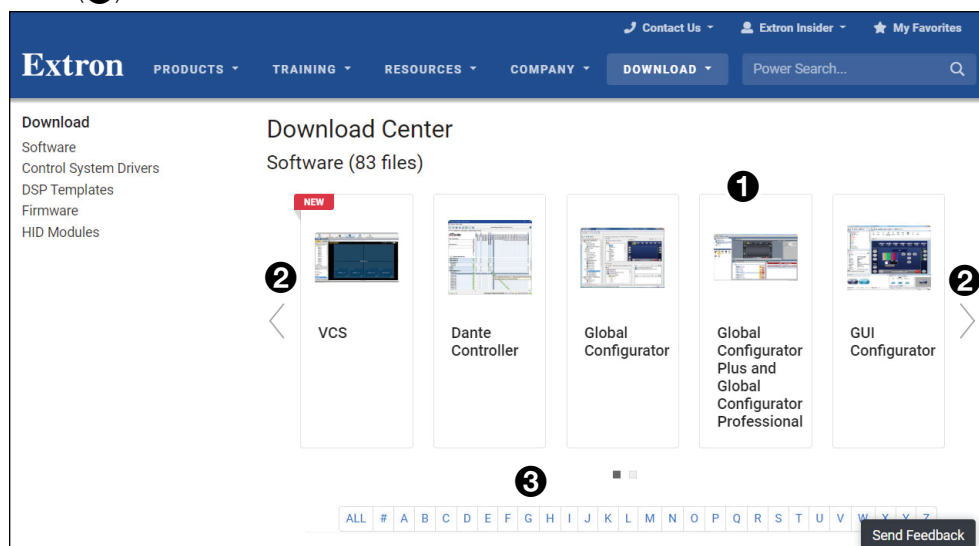

Figure 21. Software Download Center
3. You may see the product immediately, for example Global Configurator Plus and Professional (see figure 21, ①). Use the left and right arrows (②) to scroll through all the highlighted products. If the software is not shown, click the initial letter of the product in the alphabet menu (③).